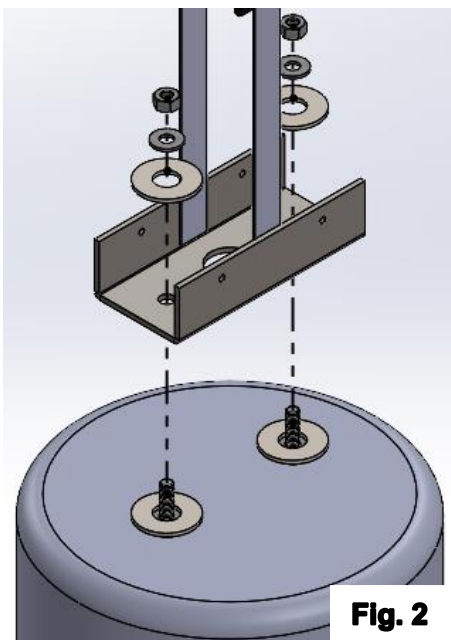

Fig. 2
- Install the base plate and secure tightly to anchor bolts with retaining nuts. Be sure wire-way hole is free of rough edges and adverse burr (**Fig. 2**).